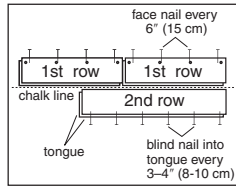

Figure 6
- Use the longest, straightest boards available for the first two rows. For random and alternate width products, use the widest plank for the first row. Align tongue of first row on chalk line. The groove should be facing the starting wall. Pre-drill 1/2" (13 mm) from back (groove) edge, 1"-2" (2.5-5 cm) from each end, and at 6" (15 cm) intervals when possible (Figure 6). Fasten using 4 or 6 finishing nails or 1" (2.5 cm) pneumatic finish nails/brads. Countersink the nails.